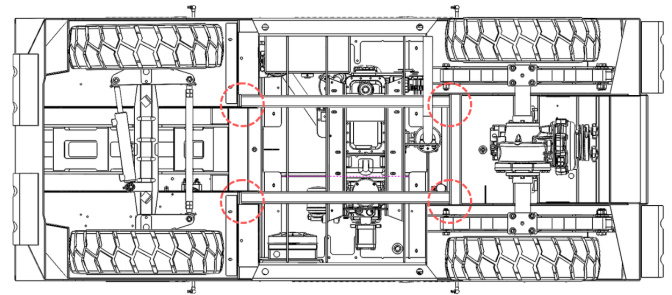

Figure 42. Weld Zones.
- Weld zones (see Figure 42: not all welds are shown).